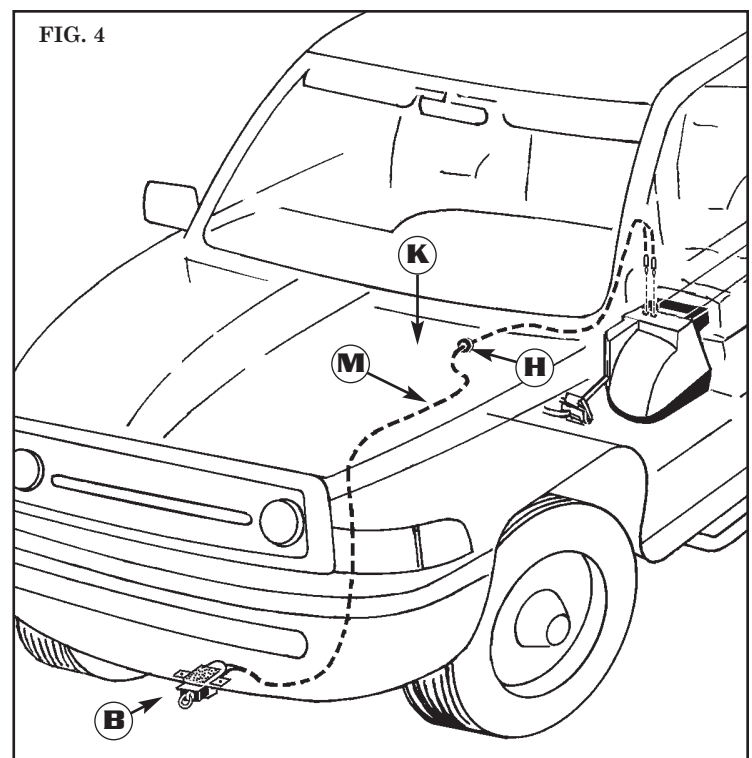

FIG. 4
8. If there is no existing hole, drill a 15/32" diameter hole through the firewall (Fig. 4 / K). Be careful not to drill into any functional components of the vehicle.
9. Starting from the junction box (Fig. 4 / B), route
the black electrical wire up to the firewall keeping it away from hot or moving engine components. Secure using the nylon ties (I) provided (Fig. 4 / M).
5. With the notched end of the clevis facing up, attach the clevis to the top of the towed vehicle’s brake pedal (Fig. 4). Angle the brake pedal clevis so the upper portion of the clevis grabs the top of the towed vehicle’s brake pedal. Pull down on the lower portion of the clevis to extend the clevis under the bottom of the towed vehicle’s brake pedal. Pull back very firmly on the red tab (B) until it locks into place securely. If attached correctly the clevis should be locked securely around the vehicle’s brake pedal.